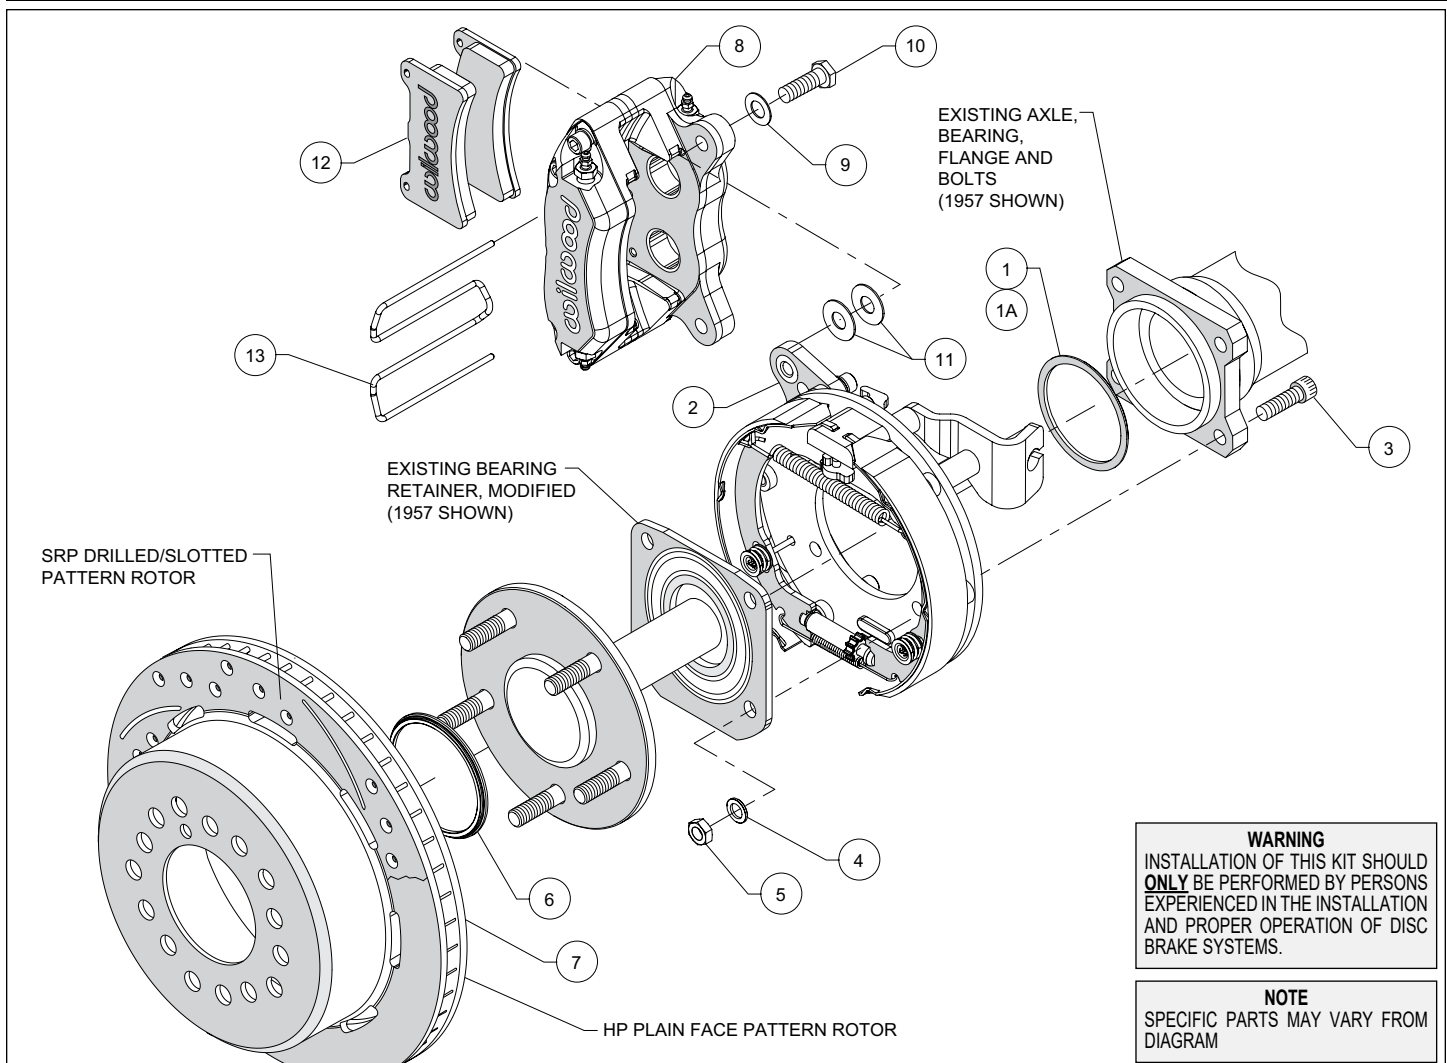
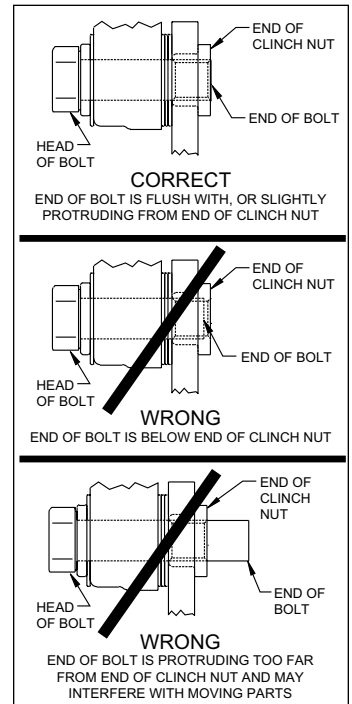

Figure 1. Typical Installation Configuration
Figure 5. Clinch Nut Engagement Diagram
NOTE: Numbers in parenthesis refer to the parts list and Figure 1 on the preceding pages.
CAUTION: All mounting bolts must fully engage clinch nuts. Be sure to check that all bolts are either flush or protruding through flanged side of clinch nut after shimming, Figure 5.
- With the bearing retainer in place, slide the caliper mounting bracket assembly (2) onto the axle as shown in Figure 1 and Photo 1. Install axle shim (1 for model year 1955/56) or (1A for 1957) over axle shaft with bearing chamfer facing toward the axle housing, as shown in Photo 2.
- Slide the axle and parking brake assembly into the axle housing ensuring that the backing plate is flush with the axle housing flange and the bearing retainer is flush with the backing plate. Secure OEM bearing retainer using bolts (3), washers (4) and lock nuts (5), as shown in Figure 1. Lock nuts (5) and washers (4) that retain the caliper mounting bracket assembly (2) should be on the wheel side of the bracket, Figure 1. Torque nuts to 40 ft-lbs.
- Slide the rotor registration adapter (6) onto the axle register on the axle flange with the smaller O.D. facing toward the rotor/hat (7), Photo 3. Align the correct hole pattern in the rotor/hat with the stud pattern on the axle flange and slide into place, Figure 1 and Photo 4. **NOTE:** The rotor/hat must fit flush against the axle flange or excessive rotor run out may result. Install three lug nuts (finger tight) to keep the rotor/hat assembly in place while continuing with the installation. **NOTE:** Some OEM and after market axles come with stud sizes larger than 0.50" diameter. Verify stud size and have a qualified machine shop drill the bolt circle of the hat/rotor to the correct stud size, if necessary.
- NOTE:** Please reference the caution statement at the beginning of the assembly instructions. Mount the caliper (8) onto the caliper mounting bracket (2) using bolts (10) and washers (9), as shown in Figure 1. Initially place two .035" thick shims (11) on each bolt between the caliper and the bracket, Photo 5. Temporarily tighten the mounting bolts and view the rotor (7) through the top opening of the caliper. The rotor should be centered in the caliper, Photo 6. If not, adjust by adding or subtracting shims between the bracket and the caliper. Always use the same amount of shims on each of the two mounting bolts. **NOTE:** The end of each bolt must be flush with or slightly protruding from the head of the clinch nut, as shown in Figure 5. If necessary place spare shims between washer (9) and caliper mounting ear to achieve the proper clinch nut engagement. Once the caliper alignment and clinch nut engagement are correct, remove the bolts one at a time, apply red *Loctite*® 271 to bolt threads, and torque to 40 ft-lb.
- Install the disc brake pads (12) into the caliper, with the friction material facing the rotor (7), and secure in place using pad clip retainer (13), Photo 7.
- NOTE:** Clevis and cable kits which attach to the parking brake assembly are not included in the Wilwood parking brake kit. Wilwood offers a generic style parking brake cable kit, P/N 330-9371 for this application which can be ordered separately from your local Wilwood dealer or by calling Wilwood customer service at (805) 388-1188.
- Before final installation of the wheel, install three lug nuts, remove the rubber grommet in the bracket kit assembly (2) and adjust the parking brake shoes outward (using a drum shoe adjustment tool available at your local auto parts store) while spinning the rotor/hat (7) until a slight drag is felt against the hat/drum. Replace the rubber grommet when finished.